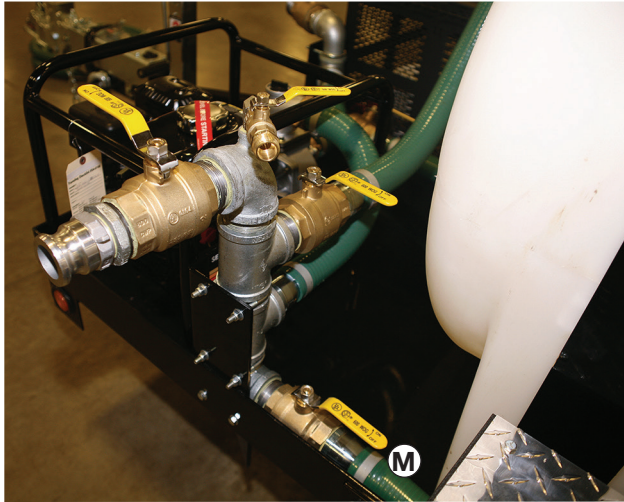

Figure 10
When using the Spray Bar, open valve (M) with valves (K), (L) and (N) closed (figure 10).